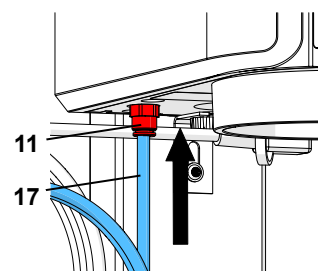

Fig. 5-a
**In previous devices, the inlet filter (12) was situated outside the device (Fig. 5-b). In these cases, push the compressed air horse (17) onto the inlet filter (12). There will be a slight resistance to overcome when attaching.**